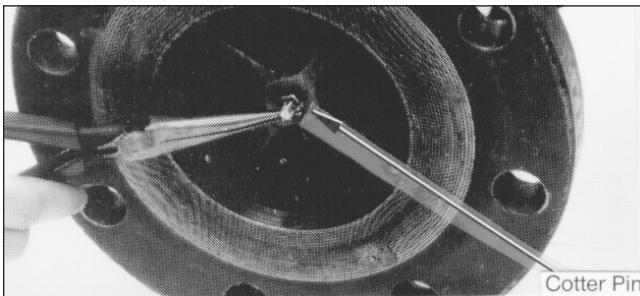

Figure 7
7. Remove cotter pin and slotted nut from downstream end of meter, Figures 7 and 8.